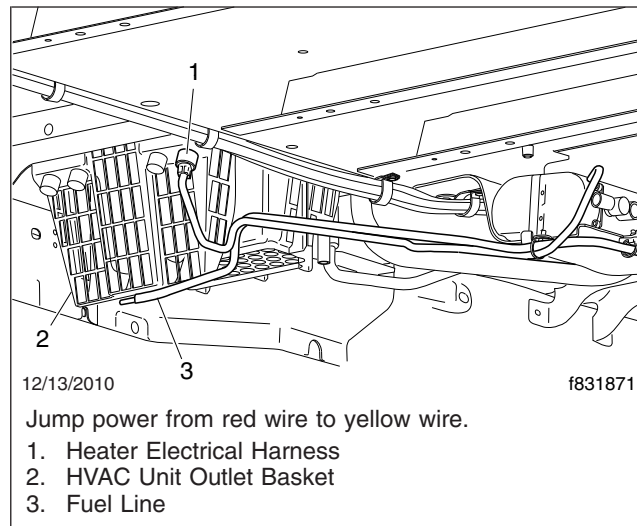

Fig. 6, Testing the Heater Function
2. Jump the power from the red wire to the yellow wire (so that both supply 12V to the heater). See Fig. 6.